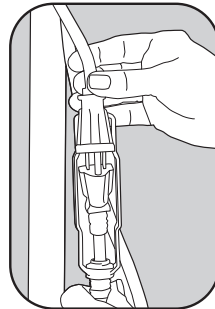

Fig. 2
3. Turn the knob on the bottom of the cord lock to tighten the lock and prevent the cords from pulling apart (Fig. 2).